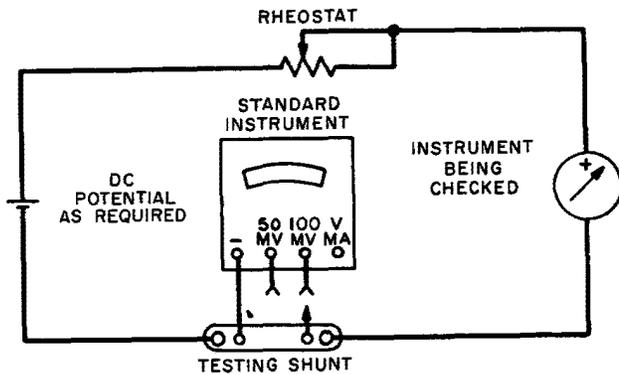

Fig. 13 - Testing Circuit for DC Ammeters Checked At Values Between 3 and 50 Amperes
(65) If the ammeter is to be checked at more than one point on the scale, select another checking current as covered in (62) and proceed as covered in (64).
(66) Proceed as covered in (59).
(68) Remove potentials from the ammeter to be checked and connect it in series with the KS-9442, L21 shunt in the testing circuit Fig. 13.